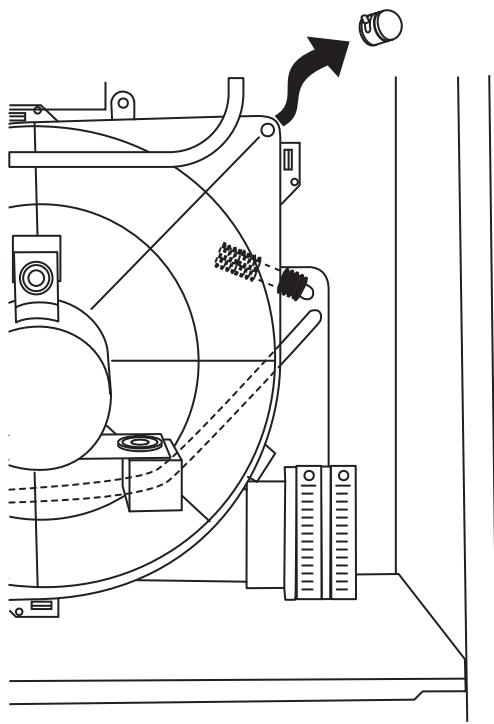

Fig. 48 - Inducer Housing Drain Tube Cap
1. Remove upper inducer housing drain connection cap. (See Fig.48.)